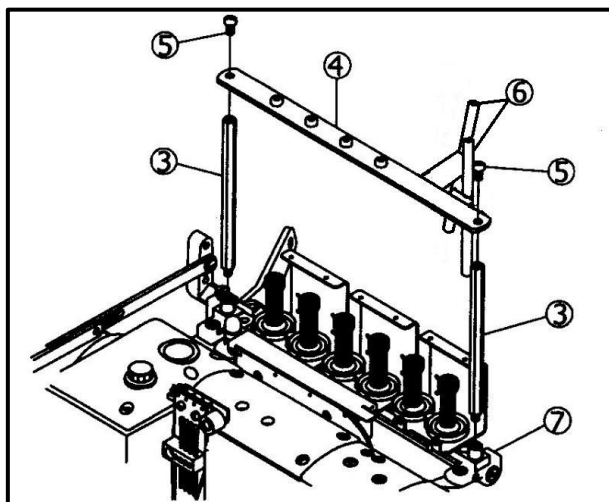

Fig.12
Stand the thread guide plate supports ③ on the thread tension support ② and fix the thread guide plate ④ on the supports ③ with the screws ⑤. Adjust the thread pipes ⑥ to thread smoothly without entangling. (Fig. 12)